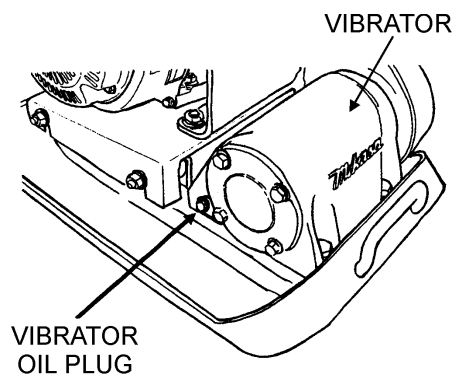

Figure 10. Vibrator Oil Plug
2. Check vibrator oil level by removing the oil plug (vibrator oil gauge) as shown in Figure 10. The oil level should be up to the oil plug. **IMPORTANT**, if oil is required, replace using only SAE10W-30 motor oil.
- Place the Engine **ON/OFF** switch (Figure 10) in the **OFF** position.